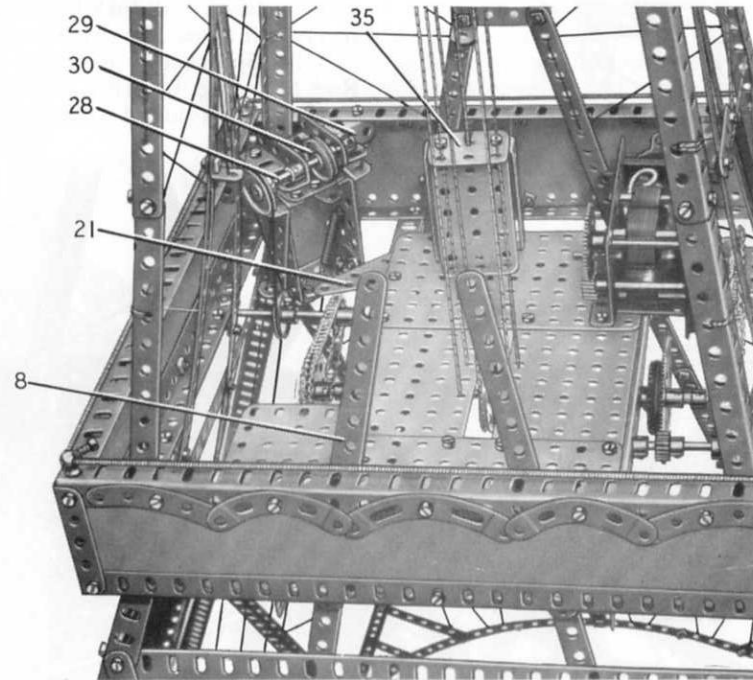

FIG. 7 Another view of the centre landing platform
The lift working to the centre platform is made by bolting 1½" Angle Girders to each end of a 2½"×1½" Flexible Plate. A 2½"×½" Double Angle Strip (31) (Fig. 2) on each side is fixed between the Angle Girders, and a further 2½"×½" Double Angle Strip (32) is arranged on each side. The Double Angle Strips (31) and (32) are bolted together at the top and are connected by a Fishplate at their lower ends. The guides for this lift are provided by a length of Cord tied to one of the 2" Angle Girders bolted to girder (29) (Fig. 7). The Cord is passed through the lugs of one of the Double Angle Strips (32), through a 2½"×½" Double Angle Strip (33) (Fig. 2) bolted to the Hub Disc (6), and through the lugs of the other Double Angle Strip (32). The Cord is pulled tight and is tied to the second 2" Angle Girder. The lift-operating Cord is tied to a Fishplate bolted to the top 1½" Angle Girder of the lift and to a Tension Spring placed between the two Angle Girders; it is then taken over Pulley (30) (Fig. 7) and round two 1" Rods held by Spring Clips in Double Brackets (34) (Fig. 2). The Cord is then passed through the lower 1½" Angle Girder of the lift and is tied to the bottom loop of the Tension Spring so that the Spring is stretched slightly.